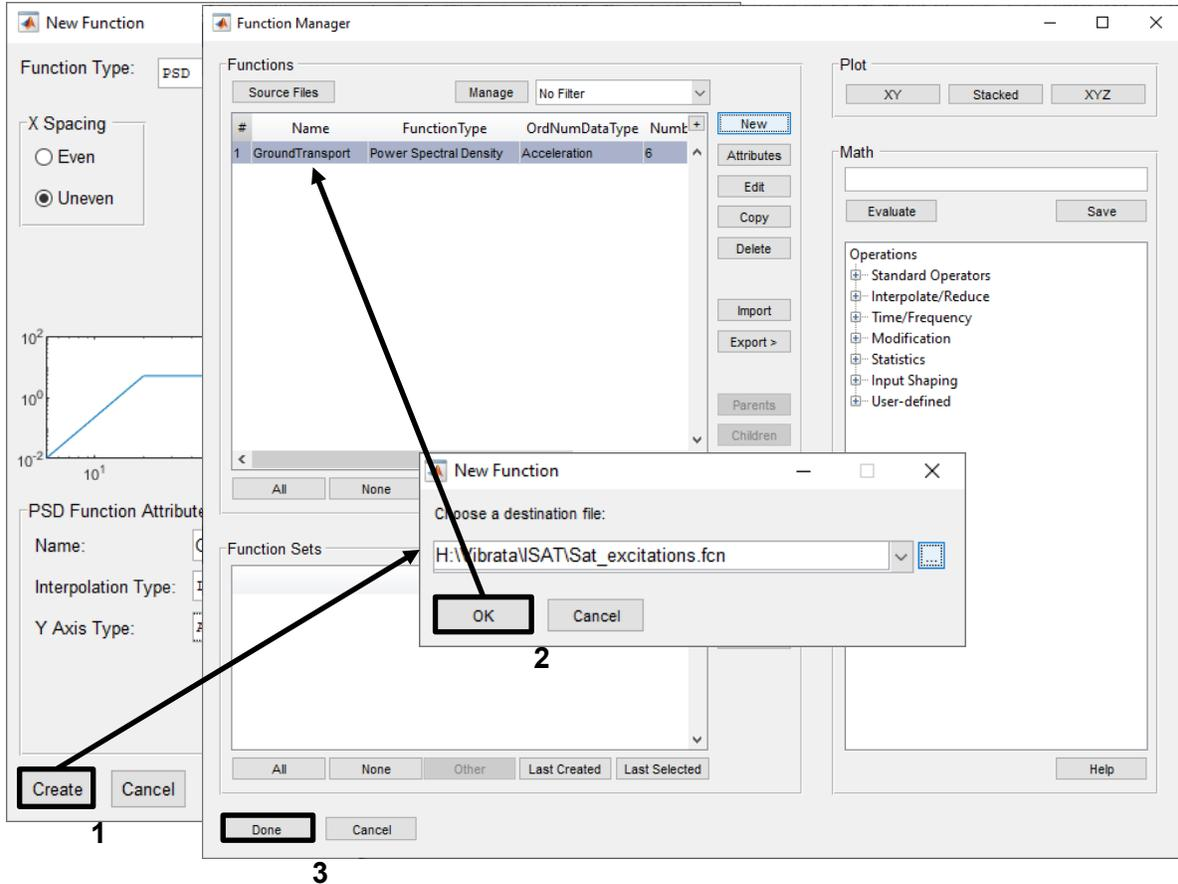

Figure 4-39. Create and save the function, and finish by clicking **Done**.
- When all the data and attributes are set correctly, click **Create** on the *New Function* dialog and save the function as shown in Figure 4-39. The new function will appear in the main *Function Manager* dialog, ready for use in the *Vibrata* events you will create in the following examples. Click **Done** to return to the *Event Manager*.